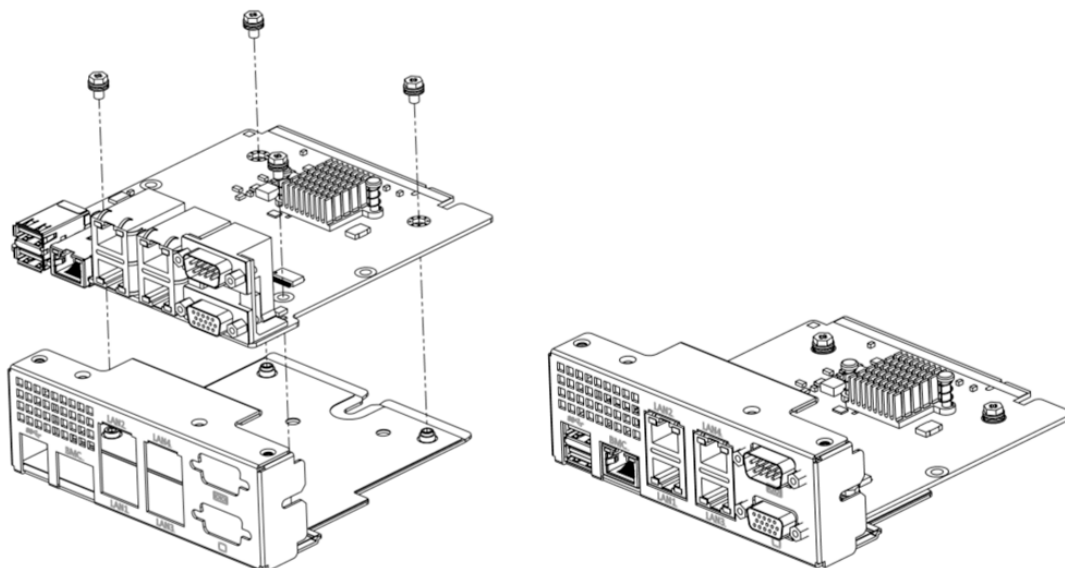

Figure 2.7 IO Module assembly/I0 模块安装 /I0 模組安裝
3. Lock 4 IO board screws into the correct location and then rotate counter clock-wise to fasten it onto the IO Module bracket. (See Figure 2.7).
3. 将四个螺丝锁入相应的位置, 然后沿逆时针方向旋转将其固定在 IO 模块铁件上(如图 2.7 所示)